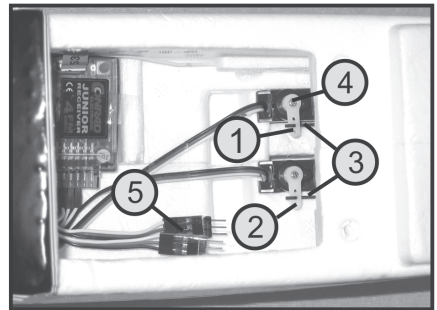

Figure 6
- There are two connecting cables (1) with 3-pin plugs on the receiver (see also figure 6, pos. 5), which have to be connected to the plugs of the aileron servos (2).